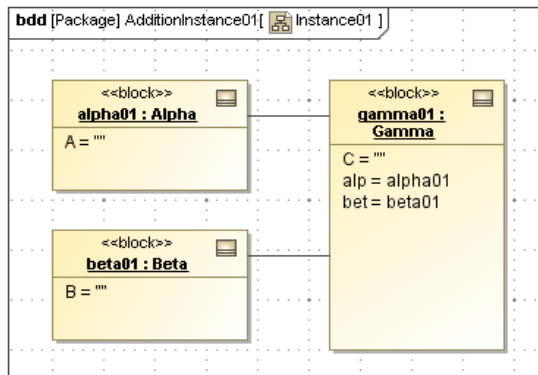

Figure 2.21 Instance diagram, preliminary
- g. Repeat steps e and f for connector from gamma01 to beta01. See diagram in Figure 2.21.